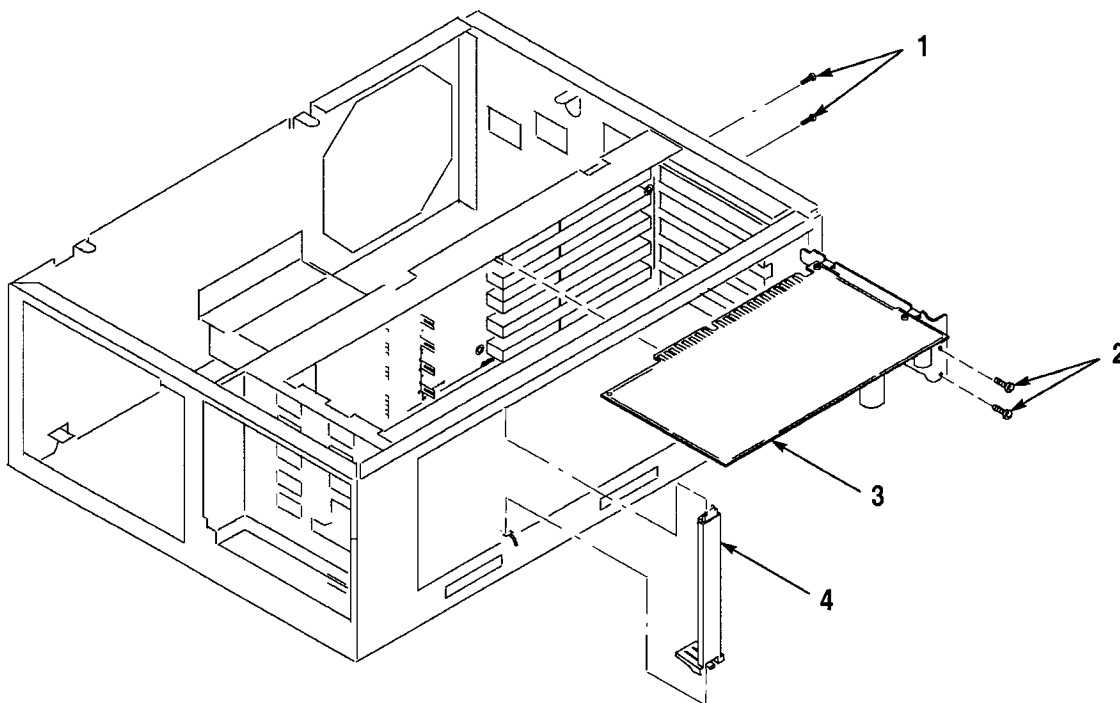

Figure 2: A23 Option 13 Assembly Installation
1. Remove the three board supports (number 4 in Figure 2) by depressing the snap lock at the bottom end of the board support and tilting it outwards. The tabbed top end slips out of a notch in the top rail.
1. Slide circuit board assembly (number 3 in Figure 2) into the chassis. Make sure the circuit board firmly plugs into J1 of the backplane assembly.